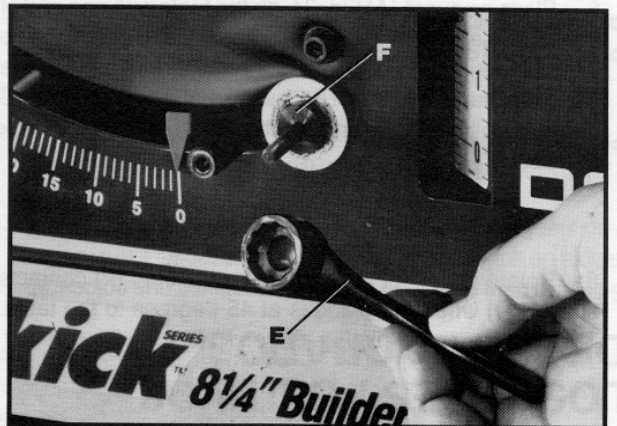

Fig. 30
3. Reposition hub of handle (E) Fig. 30, on nut (F) and replace locknut that was removed in **STEP 2** and handwheel and screw that were removed in **STEP 1**.